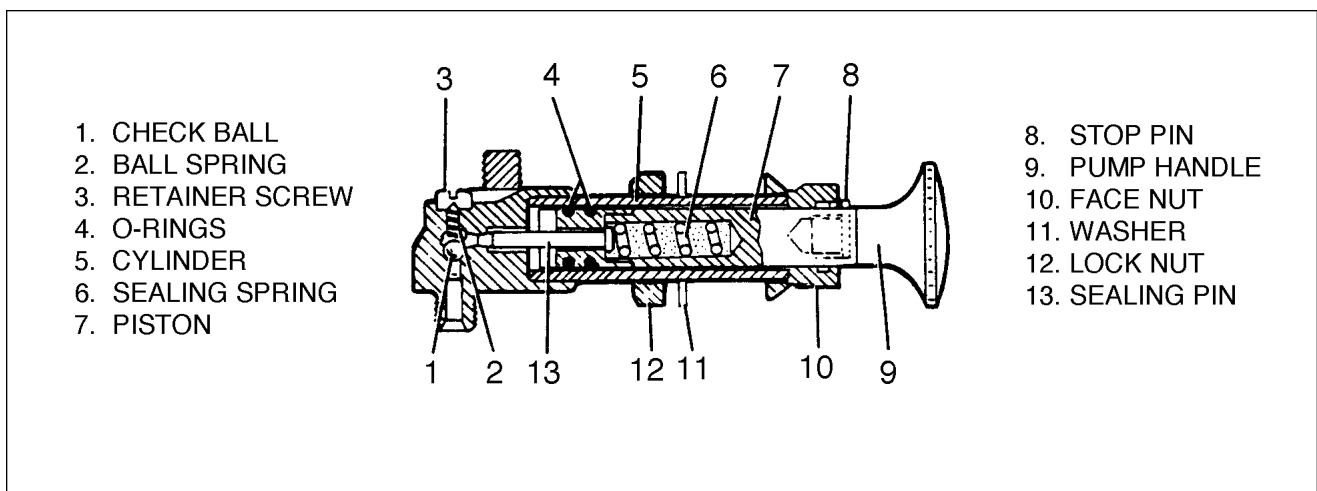

Figure 9-11. Engine Primer
#### 9-37. REMOVAL OF ENGINE PRIMER. (Refer to Figure 9-11.)
- 9-38. DISASSEMBLY, CLEANING AND ASSEMBLY OF ENGINE PRIMER. (Refer to Figure 9-11.)**
1. Remove the retainer screw (3) from the end of the cylinder housing.
2. Remove ball spring (2) and check ball (1) from the end of the cylinder housing.
1. Install new O-rings to the piston (7) and lubricate with light motor oil.
2. Install check ball (1), ball spring (2) and screw (3) to the cylinder housing.
- e. Insert the pump handle (9) and piston (7) into the cylinder (5) end. Finger tighten the knurled face nut (10).
- 9-39. INSTALLATION OF ENGINE PRIMER PUMP. (Refer to Figure 9-11.)**
- a. Remove the pump handle (9) and piston (7) by unscrewing the knurled face nut (10).
- c. Insert the piston into the cylinder (5) and tighten the knurled face nut.
- d. Position the primer and tighten the locknut (12) on the cylinder behind the panel.